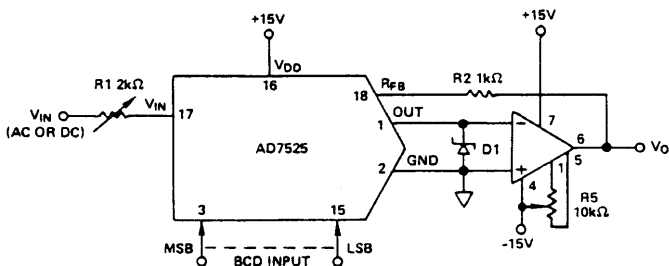

Figure 4. Digitally Controlled Attenuator Circuit
3. The inputs of some IC amplifiers (especially high speed types) present a low impedance to $V-$ during power sequencing. To prevent the AD7525 OUT terminal (pin 1) from exceeding -300mV (which causes catastrophic substrate current), a Schottky diode, HSCH 1001 or equivalent, is recommended. While not required for most amplifier types, provision for the diode should be made during layout. The diode should be connected between OUT (pin 1) and GND (pin 2) as shown in Figure 4. Protection Schottkys not required when using TRI-FET output amplifiers such as the AD542 or AD544.